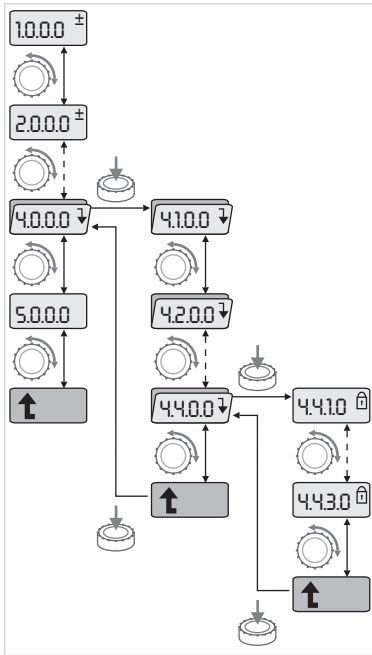

Fig. 39: Navigation example
- Carry out general menu navigation as follows (for an example, see Fig. 39):